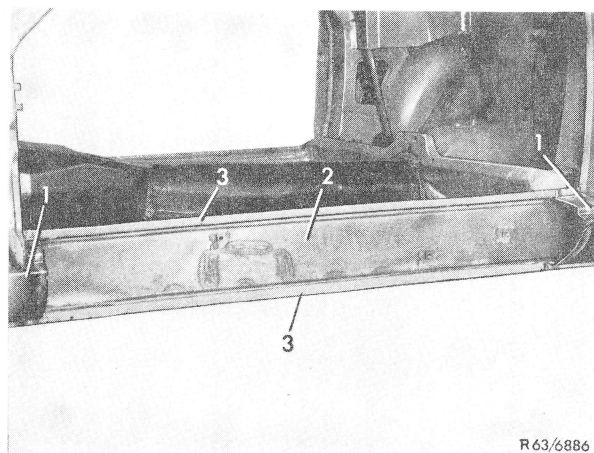

Figure 1
- 2 Separate damaged portion of side member outer shell (1) from inner shell (2) (Fig. 1).
- 3 Grind off remaining sheet metal and straighten flanges (3) (Fig. 1).